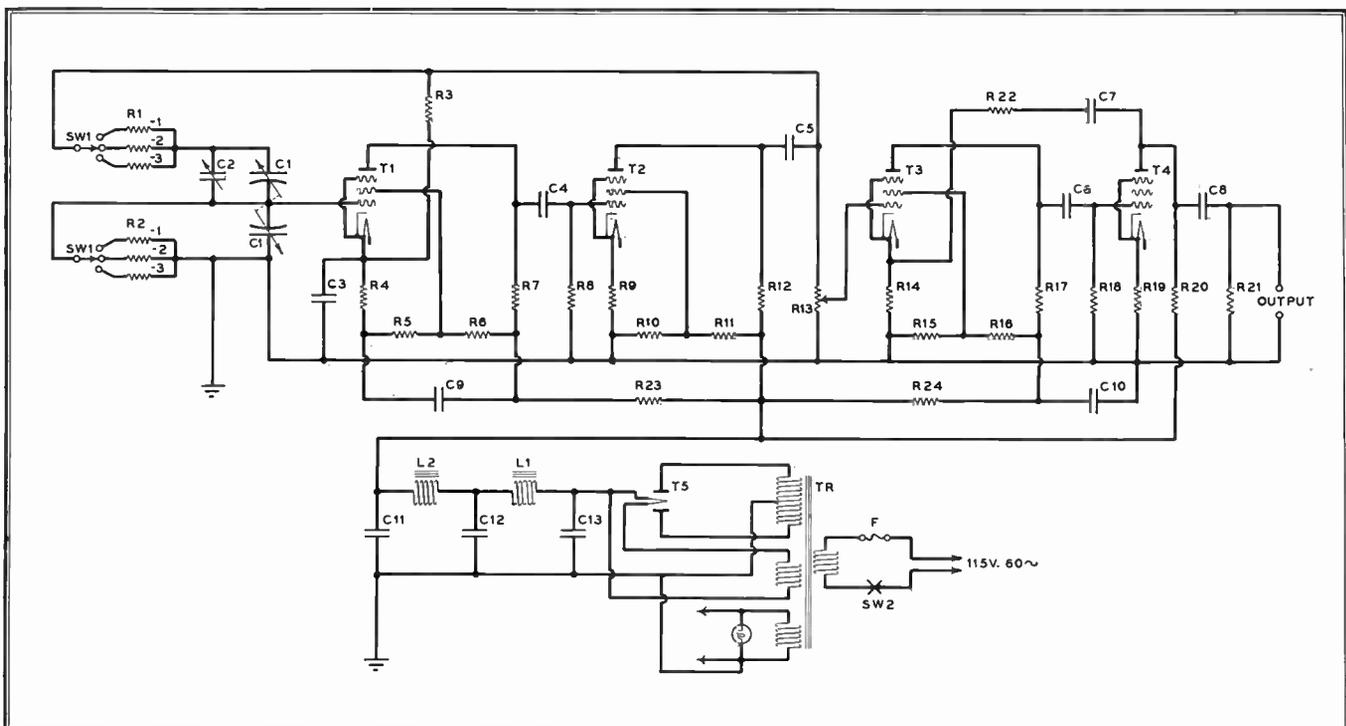

FIG. 4. SCHEMATIC DIAGRAM DOES NOT SHOW SINE WAVE TO SQUARE WAVE SWITCH DESCRIBED IN THE TEXT OF THIS ARTICLE
**Circuit** ★ Examination of Fig. 4 indicates
Examination of Fig. 4 will show that tracking between the two sections of C1 is effected by ceramic trimmer capacitor C2 connected across the upper section of C1 only, since the stray capacities in the
It will be noted that output is taken at substantially 10,000 ohms impedance from the plate circuit of triode-connected output amplifier tube, T4, through the 40 mfd. electrolytic coupling capacitor C8, and 10,000-ohm terminating resistor R21. A low output impedance could have been obtained by short-circuiting load resistor R20 and connecting the left-hand terminal of C8 in Fig. 4 directly to the top end of cathode resistor R19, together with a suitable alteration in value of R21. It is obvious that this choice of high or low impedance output can be accomplished by an additional switch to perform the circuit switching functions suggested above, and would operate to increase the general utility of the equipment.
**Square Wave Output** ★ During the course of investigation, it was found that a very satisfactory square wave output could be obtained by increasing the value of feedback resistor R3 by approximately five to ten times the value indicated in Fig. 4. As this resistor was varied and the output observed upon an oscilloscope, it was found that at some critical and relatively high value of R3, the output wave form shifted from a quite pure sine wave to a steep-sided and flat-topped square wave.